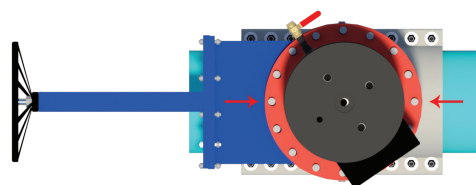

Figure 42 — Alignment nut placement for insertion housing alignment
**4.1.2)** Thread 2 alignment nuts onto the studs which connect the insertion housing to the temporary gate valve. Place these nuts at the locations shown in Figure 42.